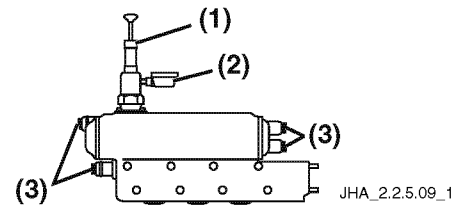

Figure 4-42
2. Install a pressure cap tester (Figure 4-42, (1)) in place of the pressure cap and operate the pump for 1 minute.